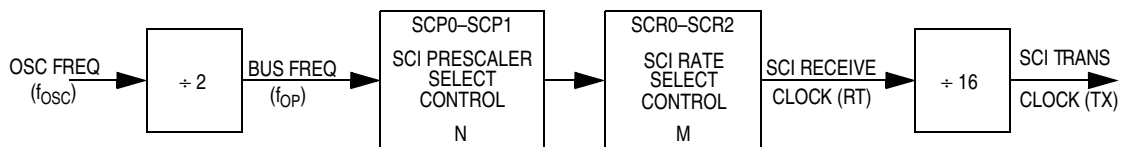

Figure 9-2. Rate Generator Division
Data transmission is initiated by writing to the serial communications data register (SCDR). Provided the transmitter is enabled, data stored in the SCDR is transferred to the transmit data shift register. This transfer of data sets the transmit data register empty flag (TDRE) in the SCI status register (SCSR) and generates an interrupt (if transmitter interrupts are enabled). The transfer of data to the transmit data shift register is synchronized with the bit rate clock (see Figure 9-2). All data is transmitted least significant bit first. Upon completion of data transmission, the transmission complete flag (TC) in the SCSR is set (provided no pending data, preamble, or break is to be sent) and an interrupt is generated (if the transmit complete interrupt is enabled). If the transmitter is disabled, and the data, preamble, or break (in the transmit data shift register) has been sent, the TC bit will be set also. This will also generate an interrupt if the transmission complete interrupt enable bit (TCIE) is set. If the transmitter is disabled during a transmission, the character being transmitted will be completed before the transmitter gives up control of the TDO pin.